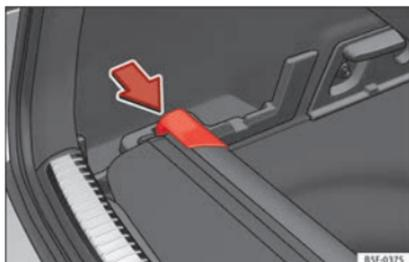

Fig. 123 In the luggage compartment: housing for storing the rear shelf.
- Press the head of the rear shelf in the direction of the arrow until it engages in its housing »» Fig. 123.